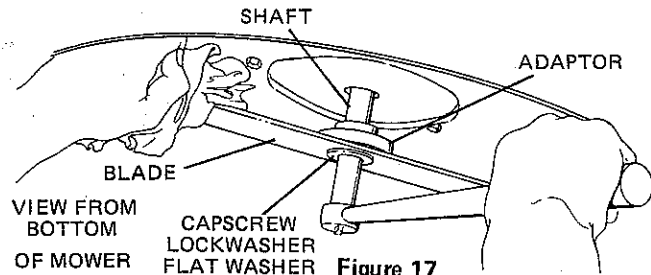

Figure 17
1. Do not attempt to remove the blade until you have the correct size box, socket or open end wrenches for the blade mounting bolts. (Figure 17)
3. Remove capscREW, lockwasher and flat washer attaching blade to engine shaft and adapter (Figure 17).